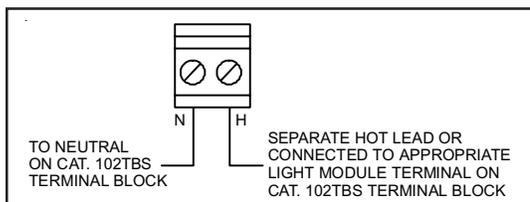
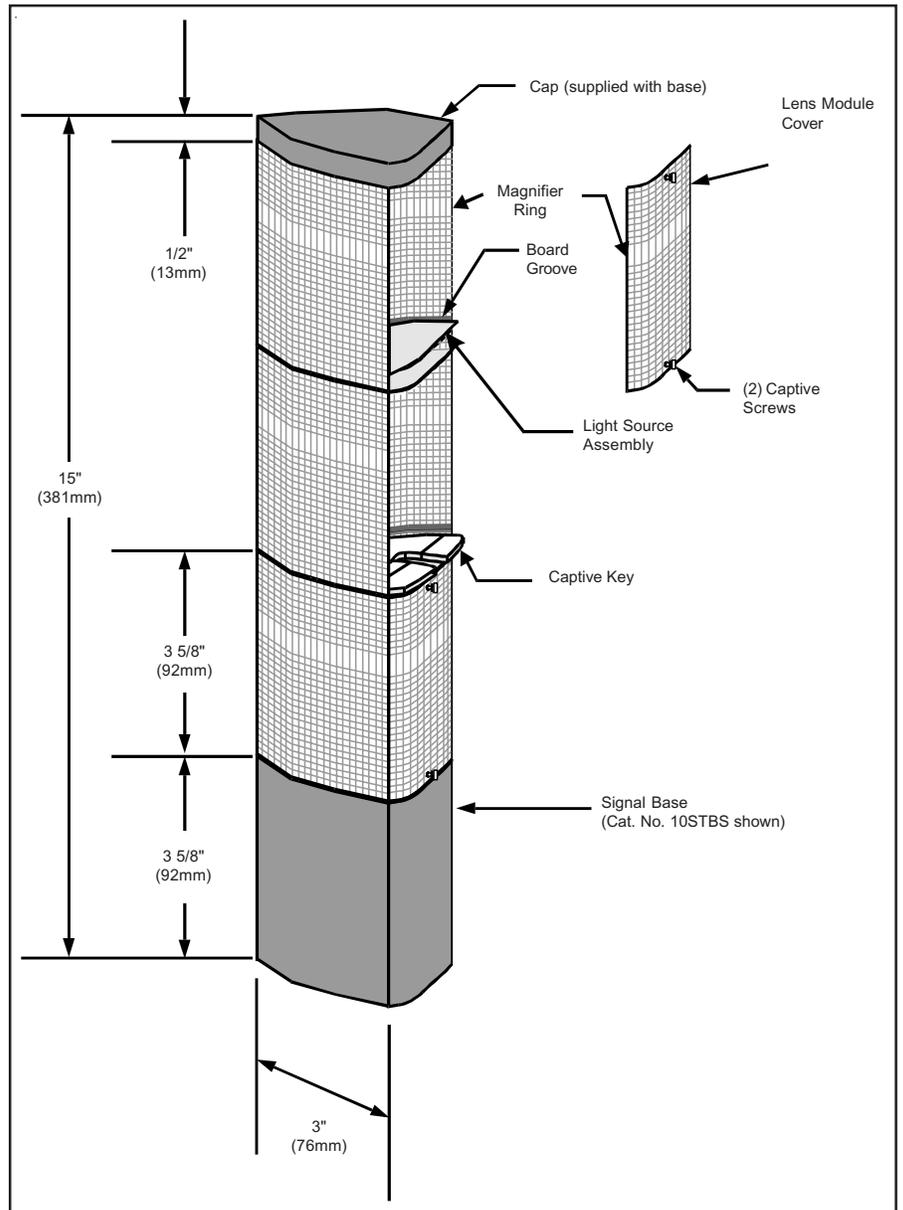

Figure 2. Wiring Cat. No. 102SIG\*T
Figure 3. Assembling the Stackable Status Indicator (Cat. No. 102TBS shown for illustration purposes only)
- c. If using the optional **Cat. No. 102SIGST** single tone module or **Cat. No. 102SIGMT** multi-tone module, connect additional field wiring to the terminal block mounted on the signal assembly as shown in Figure 2.
- (1) To sound tone module independently, connect to separate hot lead.
- (2) To sound tone module with a particular light, connect horn hot terminal to selected light terminal on Cat. 102TBS terminal block.
4. Assemble the stackable beacon lighting system (Figure 3).
To prevent leakage, ensure the magnifier ring on the lens cover and the magnifier ring on the lens module are aligned (Figure 3).